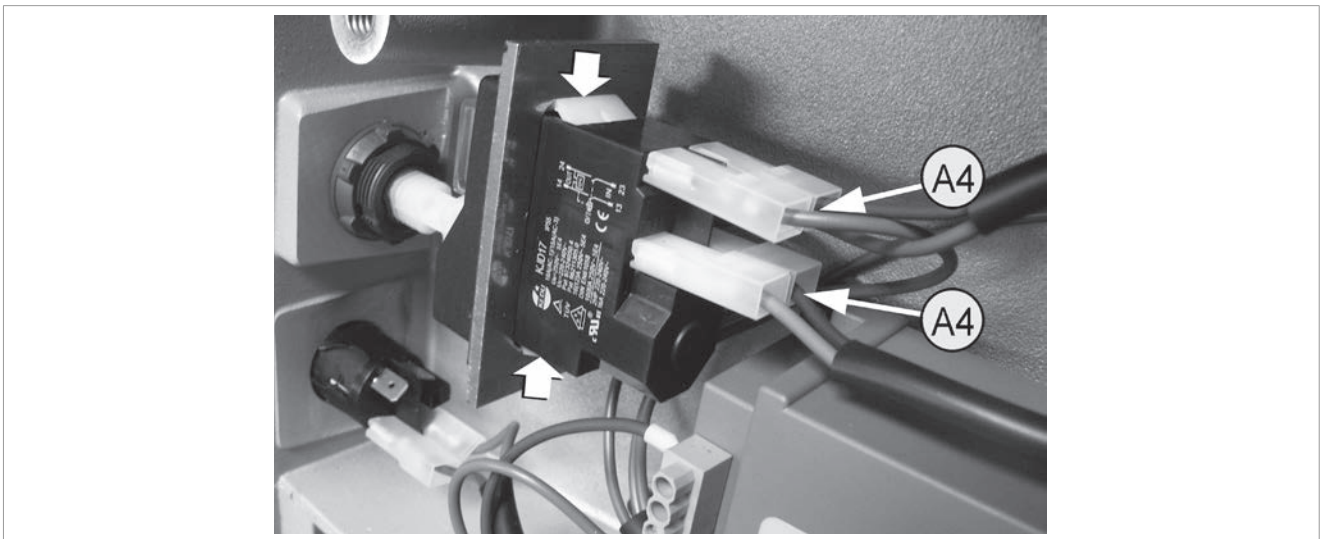

Fig.69
- 3) Disconnect the 4 connectors (A4) on the switch, observing their position carefully (Fig.69).